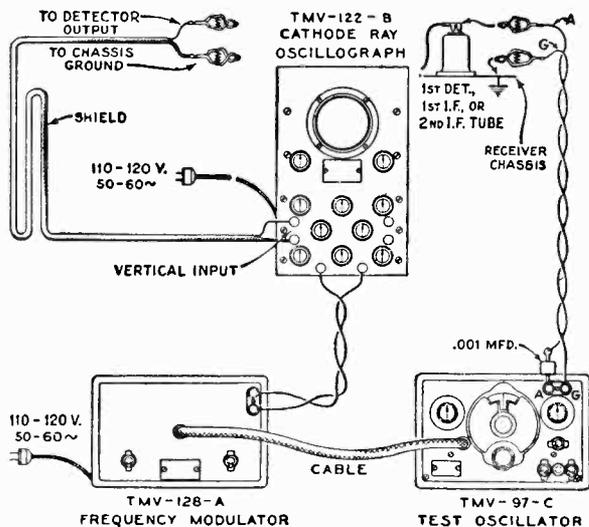

Figure 5—Alignment Apparatus Connections
The four trimmers of the two i-f transformers are located as shown by Figure 6. Each must be aligned to a basic frequency of 460 kc. The last transformer must be aligned firstly and the first transformer aligned secondly. For such a process, it is necessary to feed the output of the Full Range Oscillator to the stages in their order of alignment, adjusting the trimmers of each transformer and observing the effect at the second detector output on the Cathode-Ray Oscillograph. The proper point of connection of the Oscillograph is with its vertical "high" input terminal attached to the juncture of R-7 and R-8, as illustrated in Figure 6, and with the "0" or ground terminal to the chassis. The "Ext. Sync." terminals of the Oscillograph should be connected to the Frequency Modulator as shown by Figure 5. A .001 mfd. capacitor installed in series with the Oscillator "Ant." lead will prevent the voltages of the stage under alignment from becoming upset. The vertical "A" amplifier should be "On" for the ensuing adjustments and its gain control kept at maximum. For each adjustment, the Oscillator output must be regulated so that the image obtained on the Oscillograph screen will be of the minimum size convenient for accurate observation. Proceed further as follows:—
- (b) Attach the output of the test Oscillator between the control grid cap of the RCA-6K7 i-f tube and chassis ground as shown typically by Figure 5. Tune the Oscillator to 460 kc. and set its modulation switch to "On." Regulate its output until the signal produces a wave pattern on the Oscillograph screen, adjusting the Oscillograph controls to give a shape which is convenient for peak indications. Cause the image to stand still on the screen by manipulation of the frequency and synchronizing controls. Then carefully tune the two trimmers C-20 and C-21 of the second i-f transformer to produce maximum amplitude (vertical deflection) of the oscillographic image. Under this condition the transformer will be sharply resonated to 460 kc.
- (c) The Frequency Modulator should then be placed in operation and interconnected with the Full Range Oscillator by means of the special shielded patch cord. Figure 5 shows the proper arrangement. Set the Frequency Modulator sweep range switch to its "Lo" position and turn the Oscillator modulation switch to "Off." Change the timing control of the Oscillograph to "Ext." and place the range switch to its No. 2 position. Then carefully shift the tuning of the Oscillator so as to increase its frequency, until two distinct and similar waves appear on the Oscillograph screen and become exactly coincident at their highest points. This condition will be found to occur at an Oscillator setting of approximately 540 kc. The curves will be identical in shape but appearing in reversed positions. Adjust the frequency control of the Oscillograph in order to cause the waves to conform with the above requirement and to make them remain motionless on the screen. This will require a setting of approximately $\frac{1}{2}$ clockwise rotation of the frequency control. The trimmers C-20 and C-21 should then be re-adjusted so that the two curves move together and become exactly coincident throughout their lengths, maintaining the maximum amplitude at which this condition can be brought about.